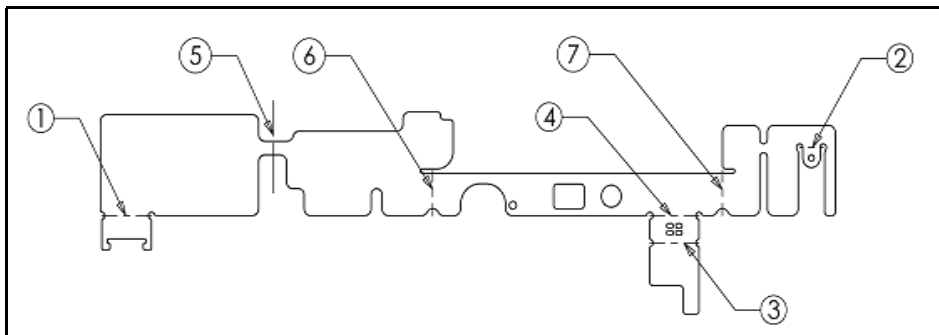
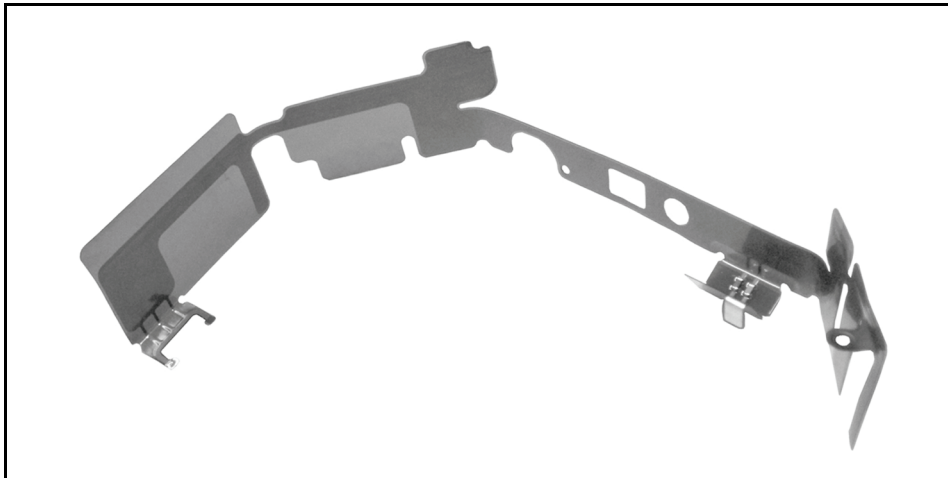

Figure 6-13. ESD Flex Circuit Preparation
Figure 6-14. ESD Flex Circuit
2. Refer to Figure 6-13. Make sharp right angle creases at locations 1, 2, 3, and 4 (respectively in order) as indicated. The bend point location is indicated by the notches on the ESD Flex Circuit and the bend direction is shown.
3. Refer to Figure 6-13. Make gentle bends at locations 5, 6, and 7, (respectively in order) as indicated. DO NOT crease these bends. See Figure 6-14 for proper results.